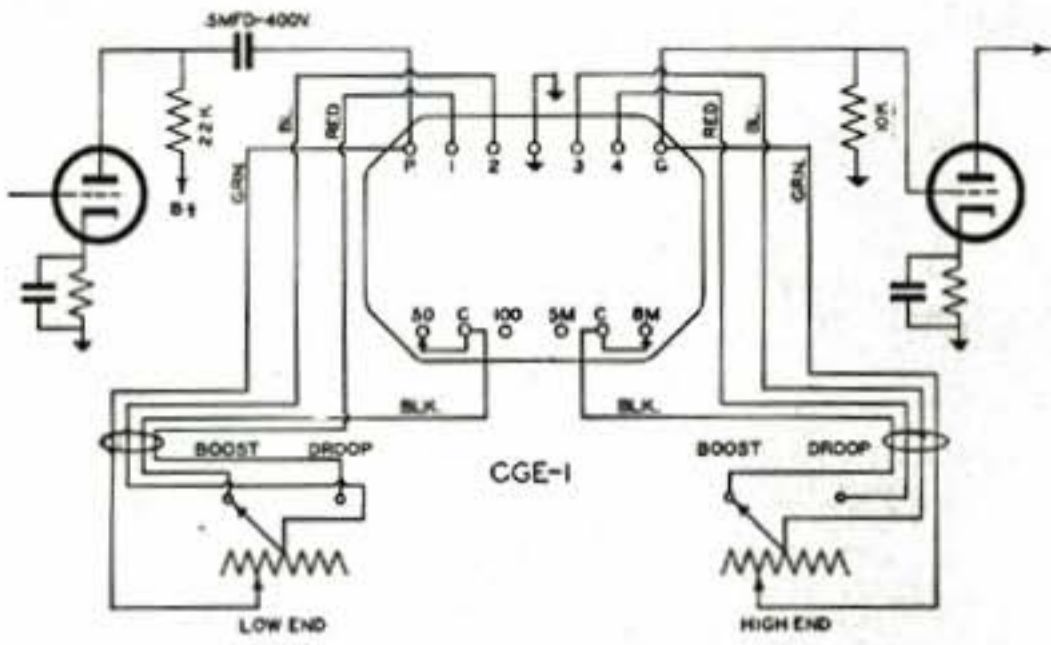

Figure 14 — Circuit for connection between triode plate and subsequent grid.
Referring to #4 above: The CGE-1 equalizer is a high impedance unit designed for insertion in an audio amplifier between a triode plate and subsequent grid, or from a high impedance source (5,000 to 30,000 ohms) other than a crystal microphone, to a subsequent grid loaded with 10,000 ohms. Figure 14 gives the circuit connections.
Some insertion loss is effected by this equalizer, particularly at the maximum settings. If the existent amplifier system does not have substantial excess gain, an additional audio stage may be required. Figure 14 illustrates the addition of such a stage. As the filament and plate drain of the added tube is small, it can normally be taken from the power supply of the original equipment.
3. When adding the CGE-1 to an amplifier with very little reserve voltage gain, a preamplifier such as the cascaded triodes in Figure 14 will result in an output voltage essentially equal to the input voltage when both maximum bass and treble boost are used.